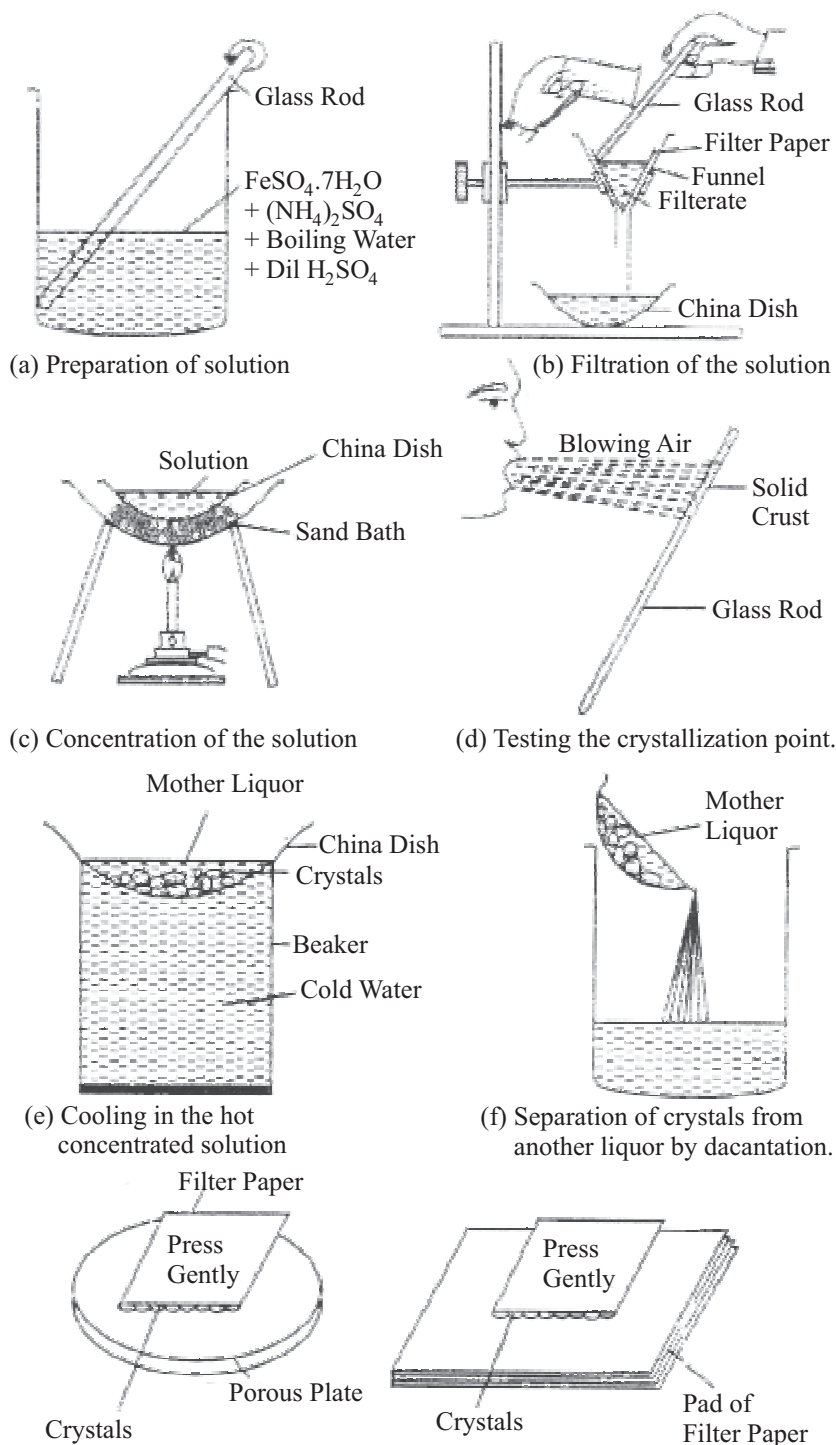

Fig. 10.1 Various steps in the preparation of Mohr salt
- (ix) Separate the crystals from the mother liquor by decantation (as shown in Fig. 10.1).